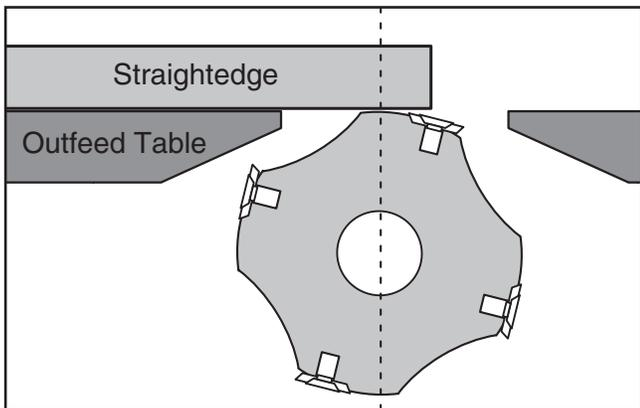

Figure 19. Checking cutterhead parallelism.
13. Using straightedge and feeler gauge set, inspect cutterhead parallelism with outfeed table, as shown in **Figure 19**. With straightedge in position, raise or lower outfeed table until cutterhead body (not carbide insert) just touches straightedge.